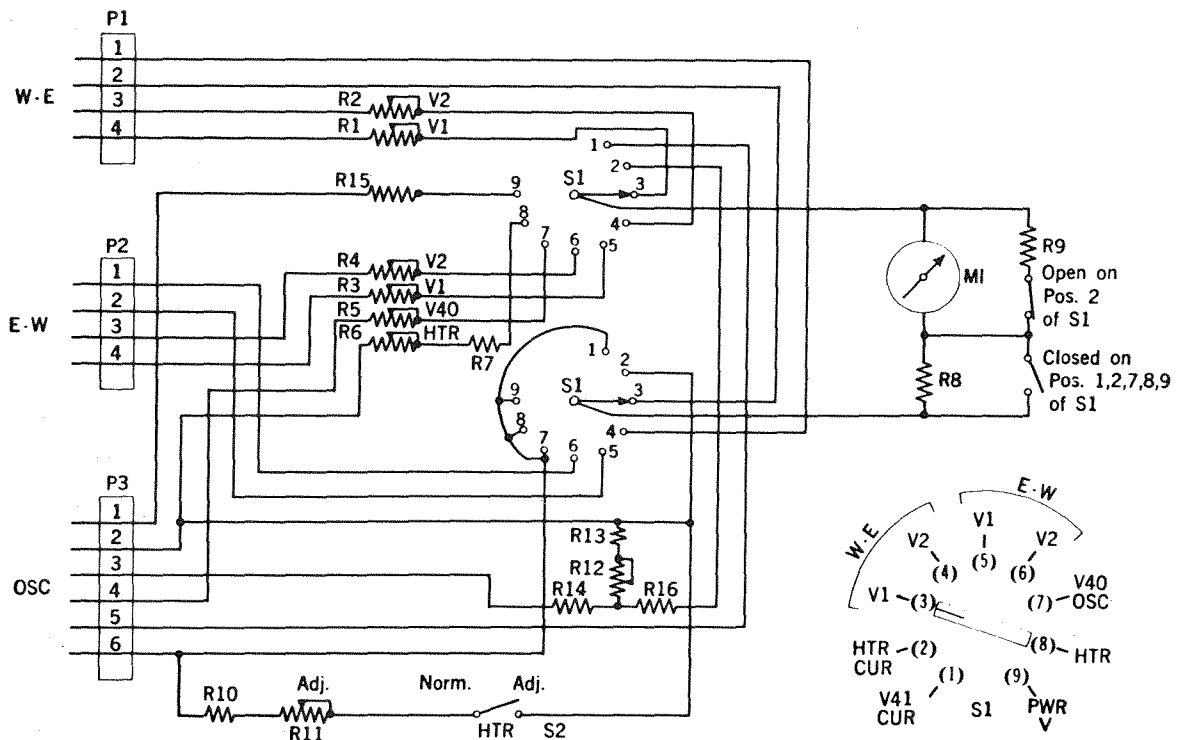

Fig. 2 - Functional Schematic of 2P Tube Test Set
2.02 The functional schematic of the test set is shown in Fig. 2 and the circuit is detailed shown on SD-95139-01. The plugs W-E, E-W and OSC are used to connect the test set to the repeater. For the most part, all wires from the plugs connect to separate points on the selector switch so that each measurement is made independently. The selector switch is the 9 position switch. The detail operation of the switch is shown on SD-95139-01.
4.04 The apparatus designations used in the procedures refer to those shown on Fig. 2 or SD-95139-01, not attached, rather than to designations appearing on the apparatus.